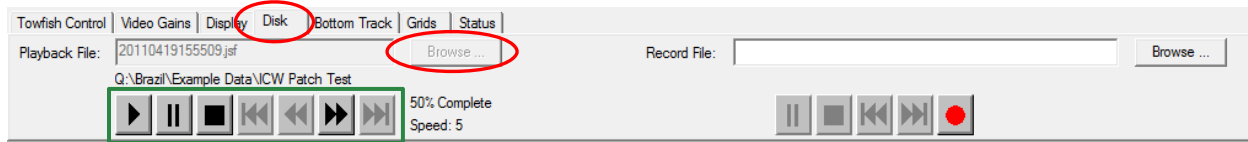

Figure 21: Disk Tab in DISCOVER - Playback
- For basic playback, navigate to the *Disk* Tab (Figure 21) and select **Browse** next to the **Playback File**: box. Locate the desired JSF file and use the function buttons to play, stop, fast forward, etc. (boxed in green).